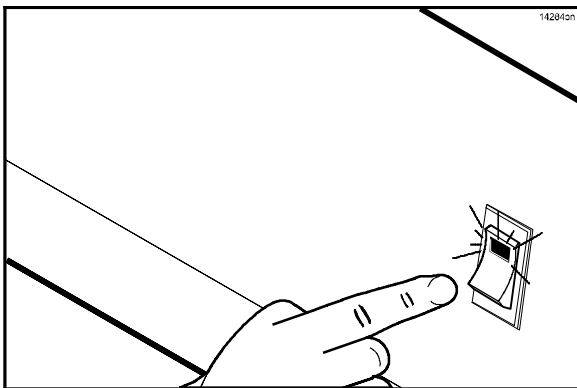

Figure 12
2. Place the fan interlock switch in the ON position. The controller will display the message “OFF”. (See Figure 12.)